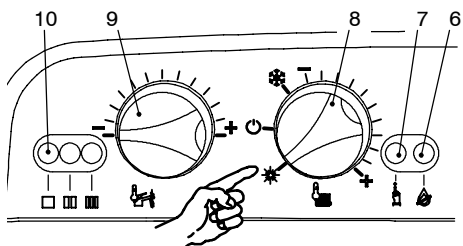

Fig. 7.8
- Set the function knob 8 as illustrated in Fig. 7.8.